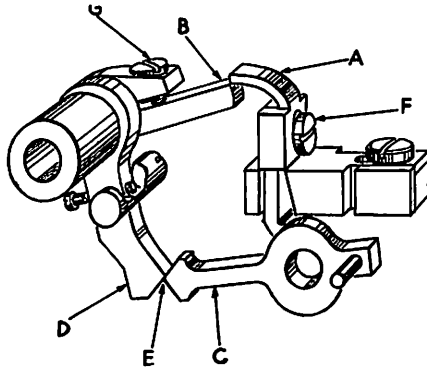

Fig. 11
The trip of this mechanism is accurately set when the point of the pawl lever extension (A, Fig. 11) passes over the top of the point of dog (B) momentarily before the point